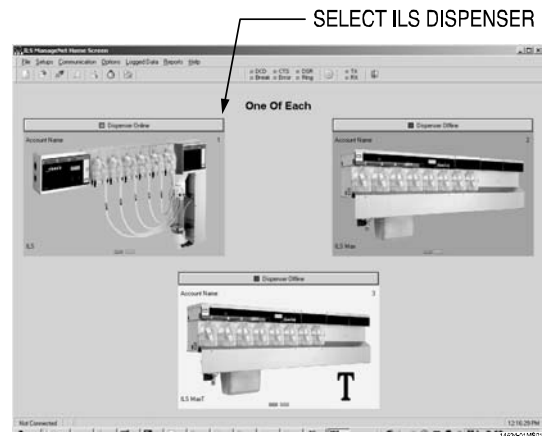

Figure D2. Data-capable Summit E will appear as ILS in ManageNet
2. When setting up Summit E with the Data Module, these dispensers do not appear in the ManageNet 3.11 pick list. Select **ILS** for each Summit E you plan to set up. A graphic of ILS will appear (see Figure D2).